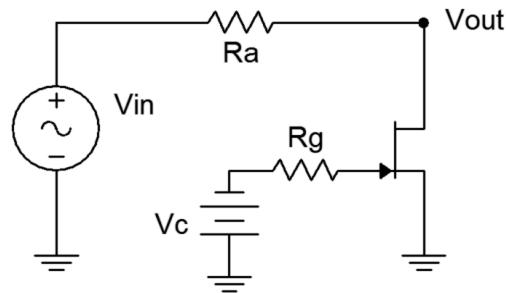

Figure 1
1. Consider the circuit of Figure 1 where V_{in} is a 100 mV peak sine at 1 kHz, $R_a = 4.7\text{ k}\Omega$ and $R_g = 10\text{ k}\Omega$. As V_c varies between 0 and $V_{GS(off)}$, the resistance of the JFET varies between a near open and a minimum value of $R_{ds(on)}$. V_{out} is derived from a voltage divider between R_a and the JFET's resistance.
2. Build the circuit of Figure 1 with $R_a = 4.7\text{ k}\Omega$ and $R_g = 10\text{ k}\Omega$. Set V_{in} to 100 mV peak at 1 kHz. Set the control voltage, V_c , to 0 VDC. Measure the signal at V_{out} using the oscilloscope and record the value in Table 1. Also, using the voltage divider rule, determine the effective resistance of the JFET.